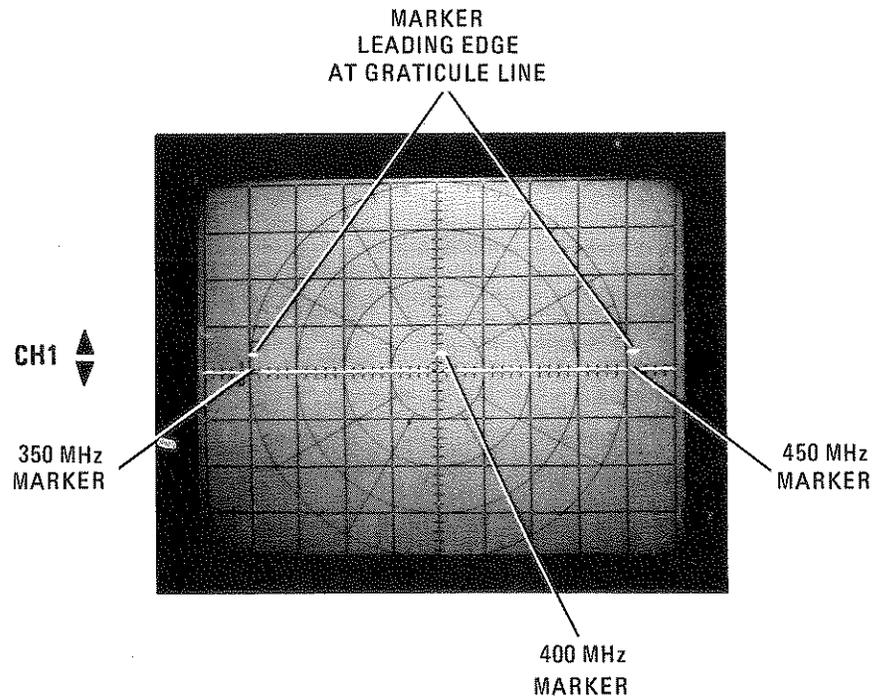

Figure 3-25. Positioning of Markers
- o. Refer to Figure 3-25. On the 8750A, adjust the Interface Board SWP IN OFF (Sweep Input Offset) so the leading edge of the 350 MHz marker is on the first graticule line in from the left side of the CRT screen. Adjust the SWP IN GAIN so the leading edge of the 450 MHz marker is on the first graticule line in from the right side of the CRT screen.